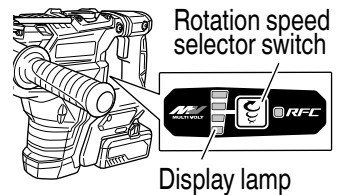

Fig. 11
4. Regulating the number of rotations and hammering (**Fig. 11**)